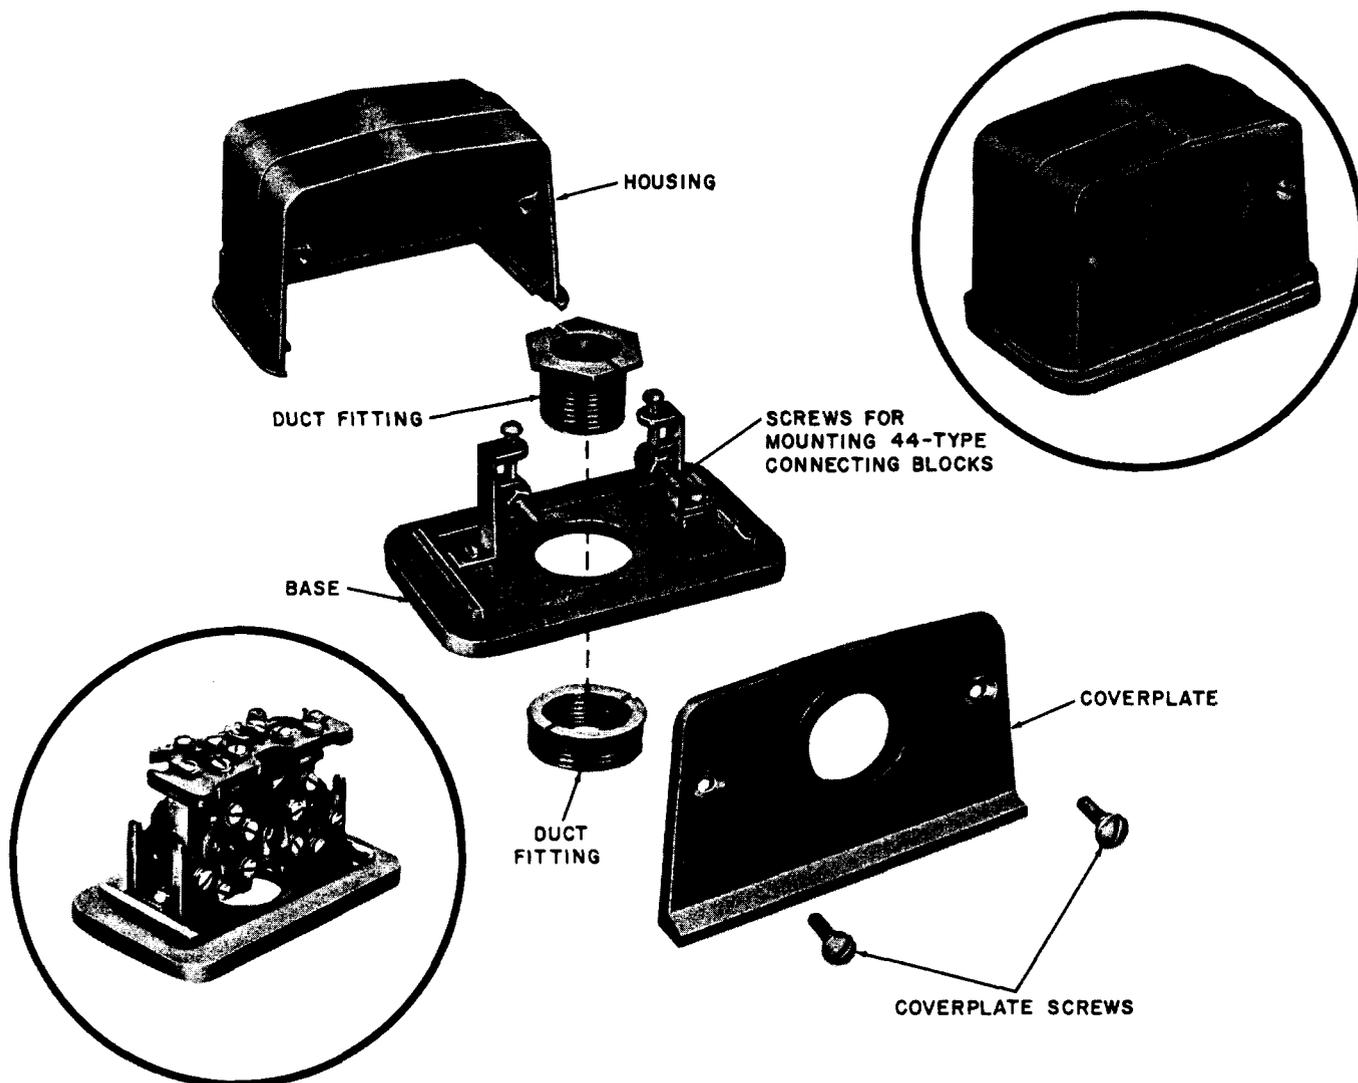

Fig. 6—Walker 505AL Outlet
5.08 The Walker 505AL outlet (Fig. 6) consists of a base, housing, and coverplate and will accommodate up to three 44-type connecting blocks.